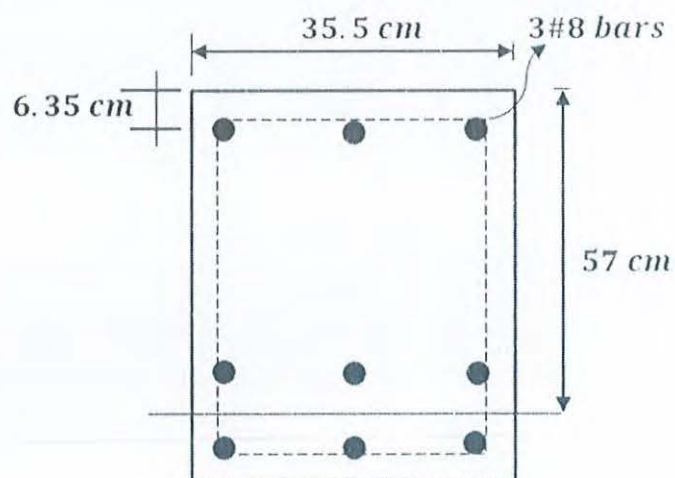

Figure: 1
3. A rectangular beam, shown in figure 1 has a width of 35.5cm & effective depth to the centroid of the tension reinforcement of 57cm. The tension reinforcement consists of six No.10 bars in two rows. Compression reinforcement consists of three No.8 bars are placed 6.35 cm from the compression face of the beam. Analyze the beam and calculate the moment resisting capacity of the beam. (12)